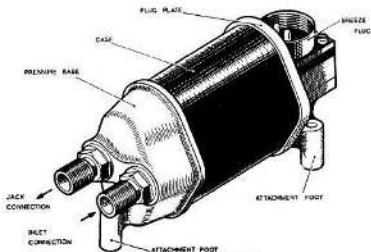

Fig. 8. Unimatic valve (AC1165)
13. This valve (fig. 8) is similar to the electromatic valve described above, but is designed to actuate a single-stroke spring-return jack, and incorporates two solenoid-operated valves instead of four, and is fitted with a 2-pin Breeze plug. The inlet valve and exhaust valve follow the same design, the inlet valve being normally closed and the exhaust valve normally open.